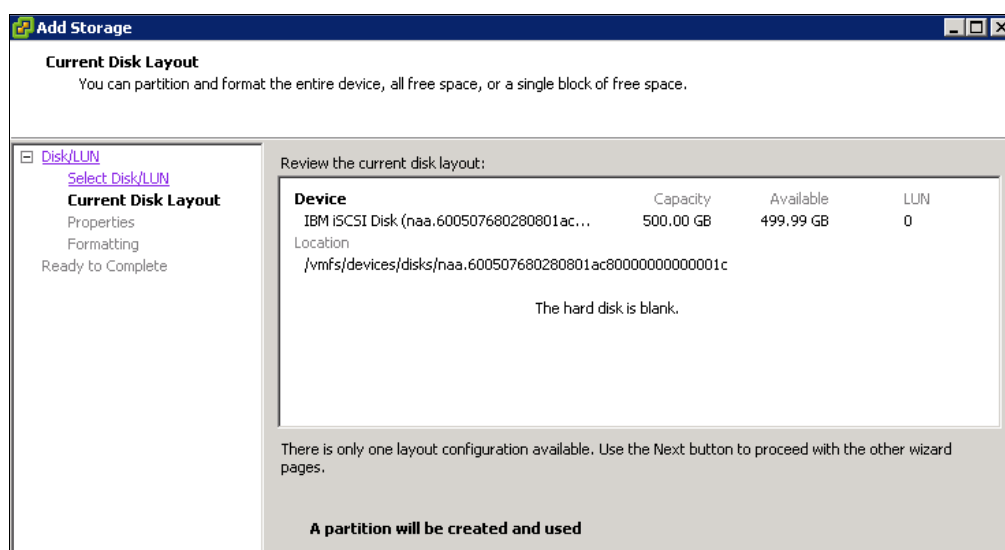

Figure 5-61 Current Disk Layout
9. Review the disk layout and click **Next** (Figure 5-61).